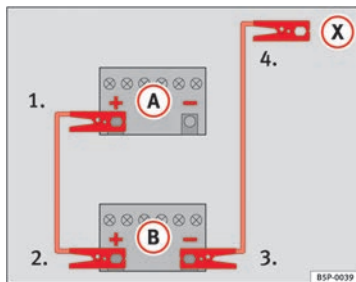

Fig. 226 How to connect the jump leads
On ⇒ fig. 226 (A) shows the flat battery and (B) the charged battery.
1. Connect one end of the red jump lead to the positive ⇒ fig. 226 (+) terminal of the vehicle with the flat battery ⇒ ⚠.
4. Connect the other end of the black jump lead (X) to a solid metal component which is bolted on to the engine block, or onto